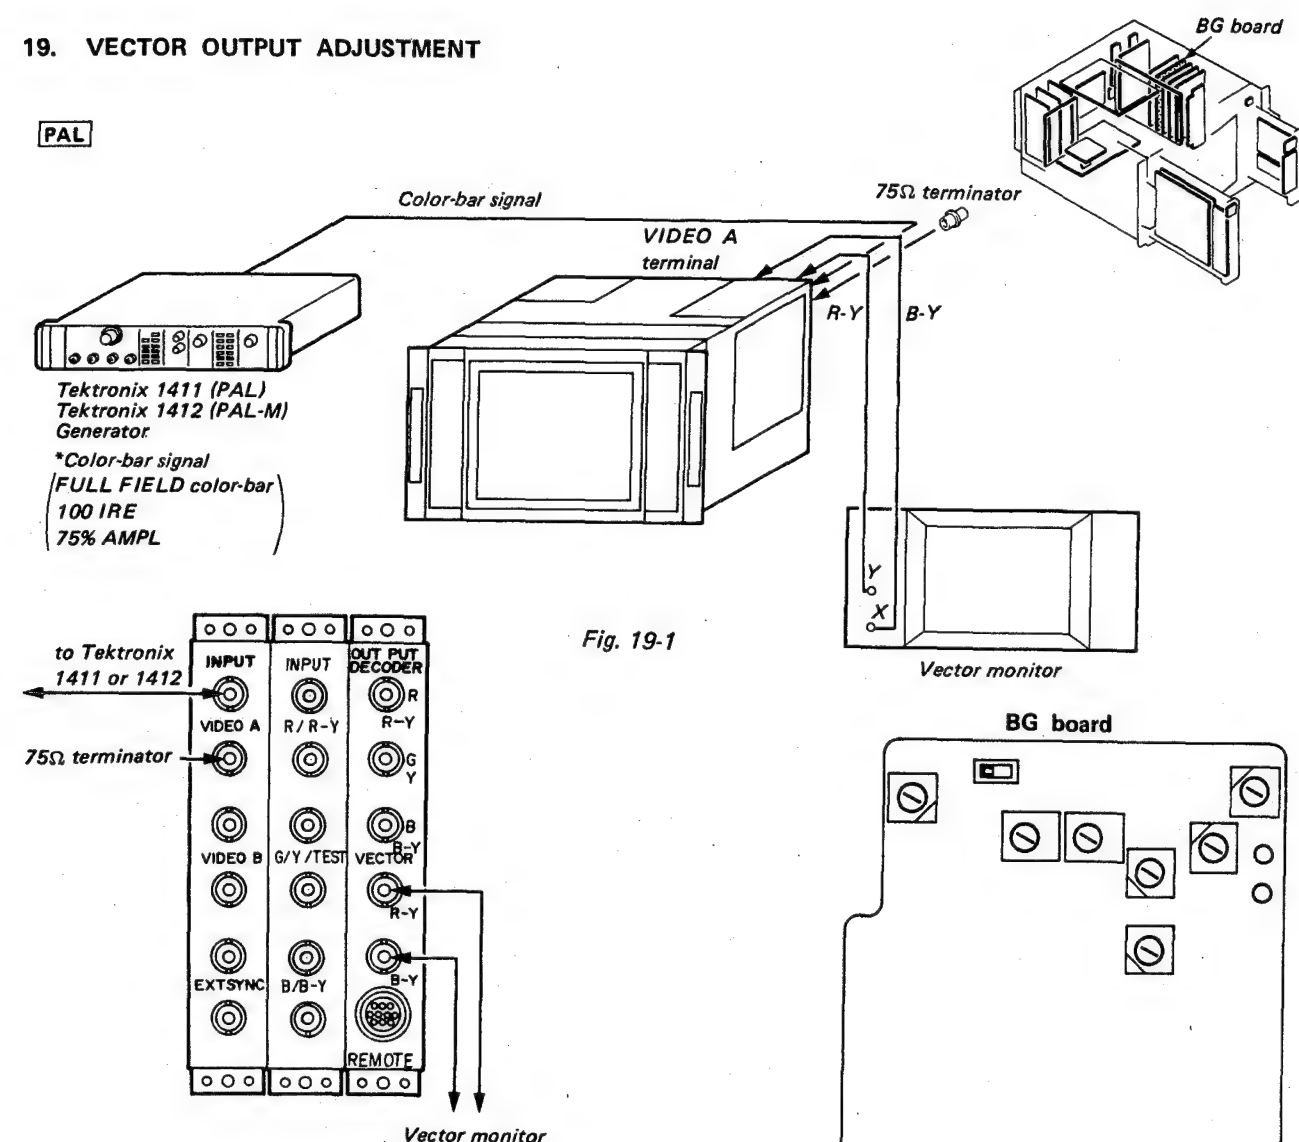

Fig. 19-1
1. Complete the connections as shown in Fig. 19-1.